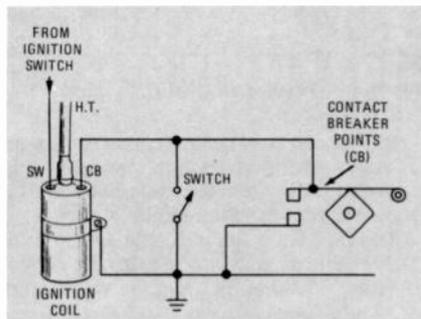
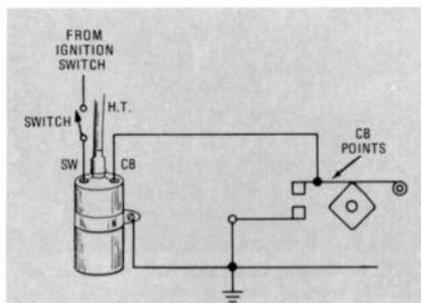
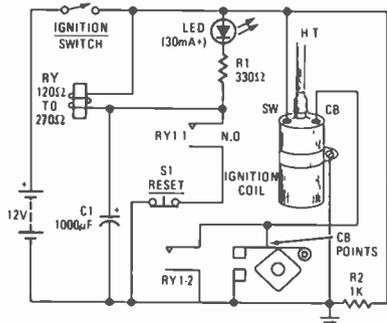

FIG. 1—IMMOBILIZER operates by shorting contact breaker points.
FIG. 2—IGNITION IMMOBILIZER operates by disabling vehicle's ignition circuit.
FIG. 5—SELF-ACTIVATING IMMOBILIZER circuit for vehicles with -V ground systems. For vehicles with +V grounded, reverse the polarities of C1 and the LED.
Simple immobilizers consist of a concealed switch wired into some part of the electrical section of the vehicles power unit. Figures 1 and 2 show how immobilizers can be wired into the vehicle's ignition system. In Fig. 1, the switch is wired between the chassis and the vehicle's contact breaker (CB) points.
The circuit shown in Fig. 2 has the immobilizer switch wired in series with the vehicle's ignition switch, so that the engine can operate only when the switch is closed. The protection of this circuit is inferior to that of Fig. 1 since the thief can bypass the immobilizer and the ignition switch by simply hooking a wire from the battery to the sw terminal of the coil.
operates only when the switch is closed. This system gives better protection than Fig. 2, but is not as good as Fig. 1 since the starter solenoid can be operated manually on many vehicles and also because the starter and immobilizer switches can be bypassed by a single length of wire.
A major weakness of the circuits shown in Figs. 1 to 4 is that they must all be turned on and off manually so they give protection only if the owner remembers to turn them on each time he leaves his car. Figure 5 shows an immobilizer circuit that turns on auto-
The relay used in the Fig. 5 circuit
The secret of digital sinewave generation is shown in Fig. 1. You use a circuit called a *walking-ring* or a *Johnson counter* to ultimately generate your sinewave. You make the counter as long as you have to. The longer the counter, the more parts, but the higher the odd harmonics you end up with and the weaker they are. A second part of the secret is that you combine outputs of the counter with resistors, into either a single small-value summing resistor, or into the summing input on an operational amplifier. *But you skip one counter stage in your summing.* This makes our sinewave waveform take twice as long automatically on the peaks and valleys. As we'll shortly see, the waveforms look rather strange and choppy before
The sequence length usually equals twice the number of stages in use. If we look at the five outputs A through E in Fig. 1, we see that we get a group of five phase-shifted squarewaves. We now sum four of these five waveforms with just the right "magic" resistor values, and we get a composite waveform that is a fundamental sinewave along with low-amplitude ninth, eleventh, and a few very small and very high-order remaining odd harmonics. For many uses you can use this sinewave pretty much as is, but it's a simple matter of filtering to get a sinewave of good purity.